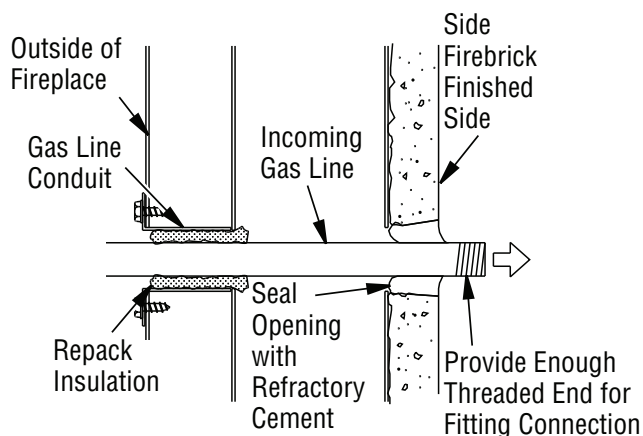

Figure 16 - Gas Line Installation
3. Install a gas line into fireplace through the rear at gas line conduit sleeve (if using a raised platform, add height). Provide sufficient gas line into fireplace chamber for fitting connection (see **Figure 16**).